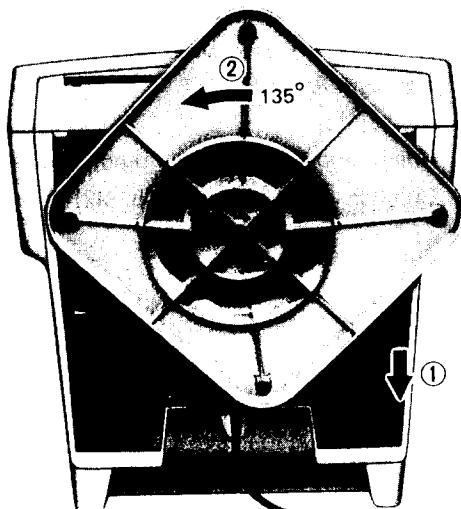

Figure 14
- c) Slide the swivel down. (Figure 14)
- d) Turn the swivel  $135^\circ$  counter-clockwise. (Figure 14)